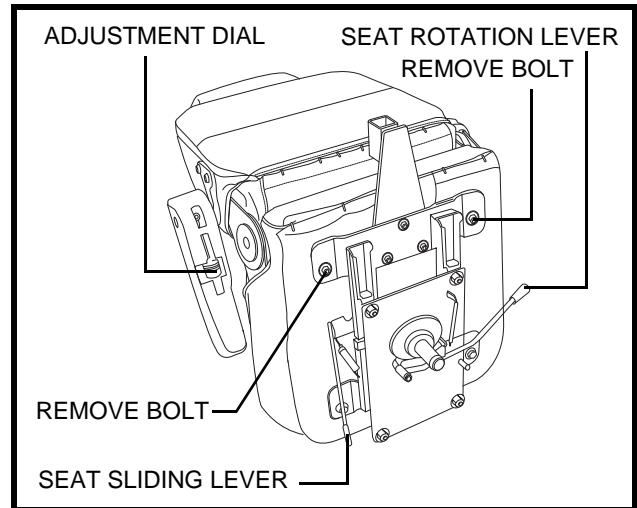

Figure 19. Seat Position Adjustments
1. Push forward on the seat rotation lever to disengage the seat. **See figure 19.**
1. Move the seat sliding lever located at the lower left side of the seat outward. **See figure 19.**
There is an armrest adjustment dial on the underside of each armrest. **See figure 19.** Turn the armrest adjustment dial to the left to lower the armrest angle or to the right to raise the armrest angle.